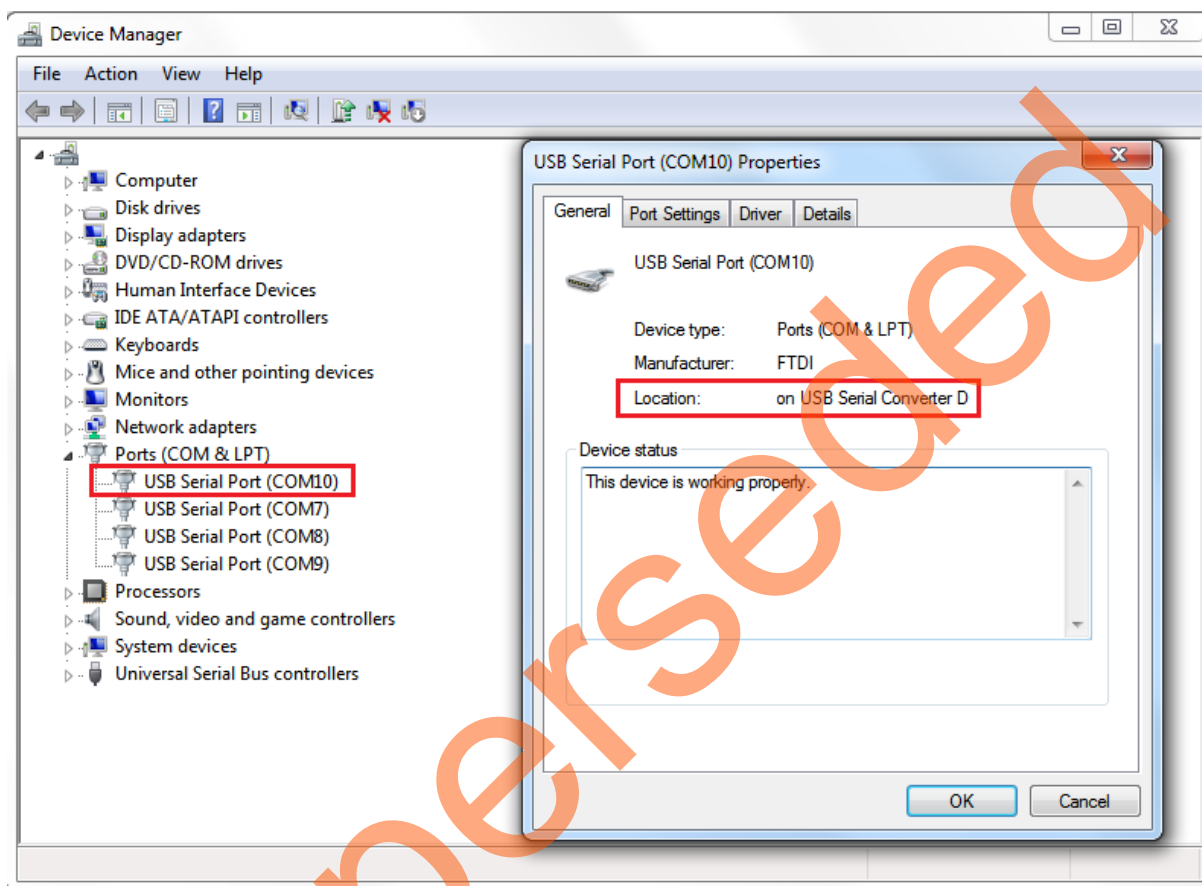

Figure 15 • USB Serial 2.0 Port Properties
5. Ensure that the USB to UART bridge drivers are automatically detected. This can be verified in the **Device Manager** of the Host PC. The FTDI USB to UART converter enumerates four COM ports. For USB 2.0, note down the USB Serial Converter D COM port number to use it in the GUI. Figure 15 shows the USB 2.0 Serial port properties. As shown in Figure 15, COM10 is connected to USB Serial Converter D. Refer to "Appendix B: Finding the Correct COM Port Number When Using the USB 3.0" on page 34 for finding the correct COM port in USB 3.0.